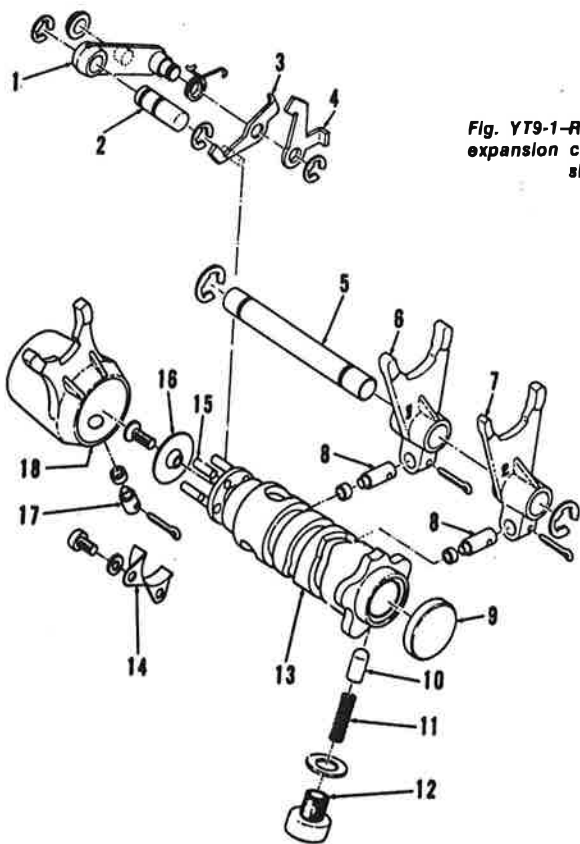

Fig. YT9-1—Refer to text for expansion chamber dimensions.
**EXPANSION CHAMBER.** MX models are equipped with expansion chambers. An expansion chamber designed to increase performance in DT1 models may be constructed with the following dimensions: (Fig. YT9-1)